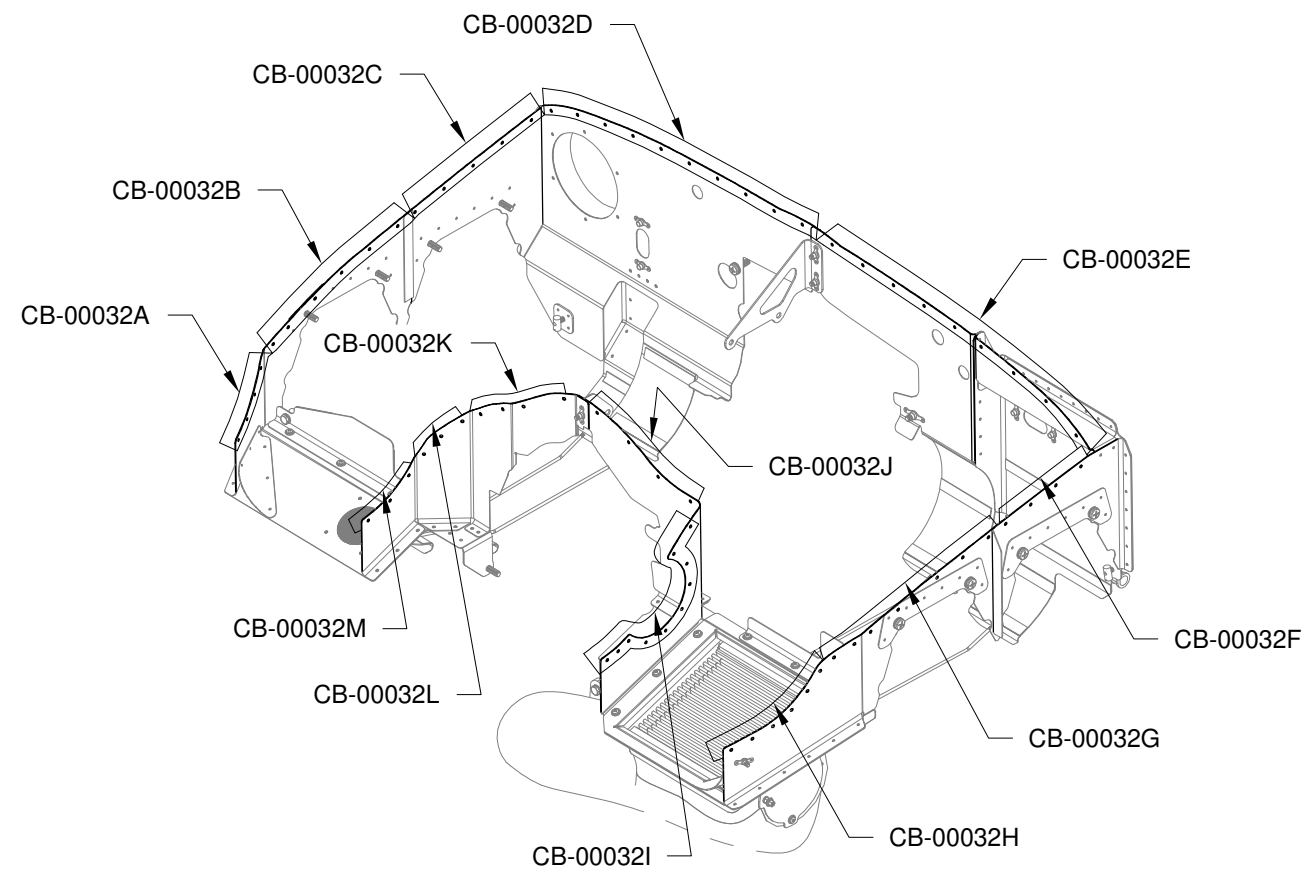

FIGURE 1: ATTACH BAFFLE SEALS
Step 1: Cleco, then rivet, the CB-00032 Cowl Baffle Seals to the inside surfaces of the forward and aft baffles as shown in Figure 1. Place a WASHER-00009 between the shop head of each rivet and the baffle seal. See Figure 2.